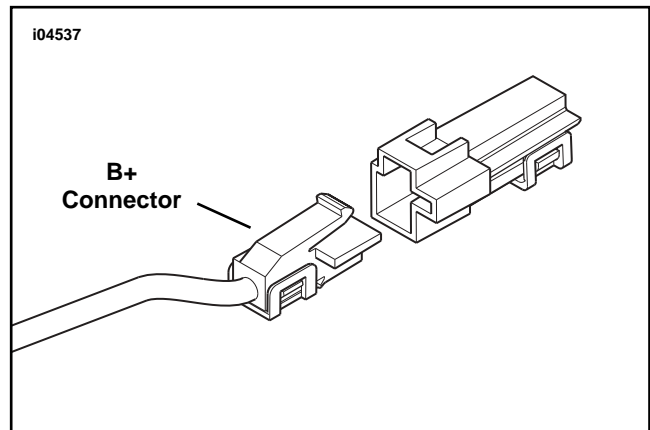

Figure 2. B⁺ Connector located under ICM
4. See Figure 2. Remove left side cover from frame and set aside.
5. See Service Parts Illustration and Figure 2. Obtain the Wiring Harness (15) from the kit. Insert the Electrical Connector Housing (11) into the B⁺ Connector on the motorcycle. Re-install the Ignition Control Module. Tighten nuts securely.
7. See Figure 2. Begin routing new horn wiring harness upward between frame backbone and along left side of main harness.